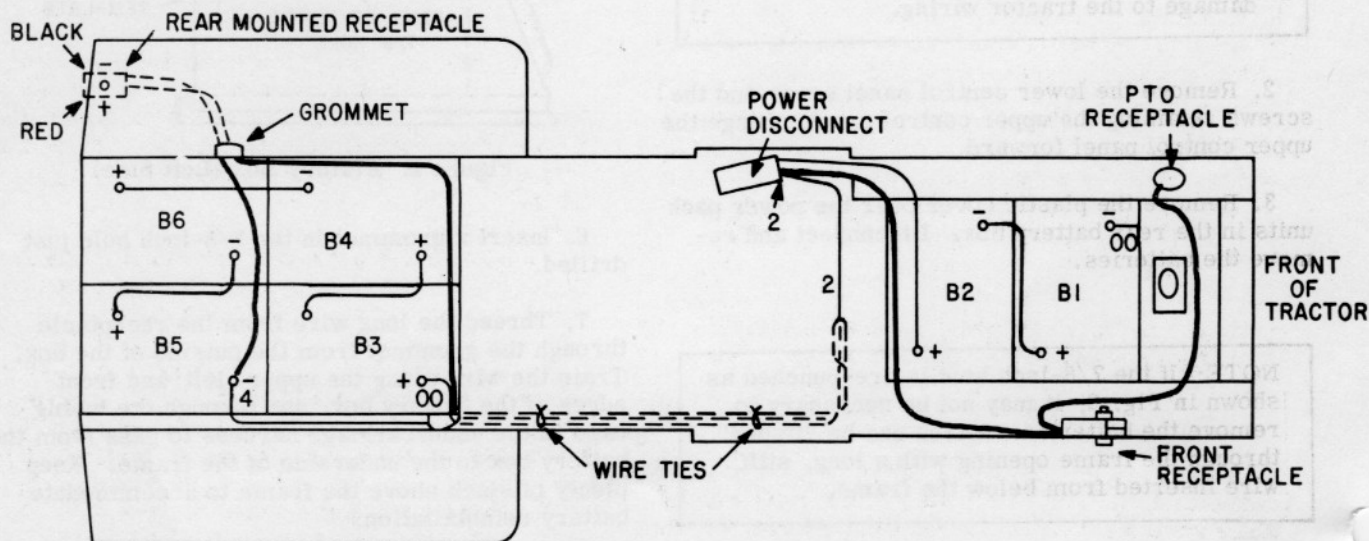

Figure 4. Wiring Layout (Top View)
10. Replace the batteries following the layout in Fig. 4. **DO NOT RECONNECT THE BATTERIES AT THIS TIME!**
12. Reconnect the batteries as shown in Fig. 4, connecting the short receptacle wire to the clamp on the negative post of battery B5.